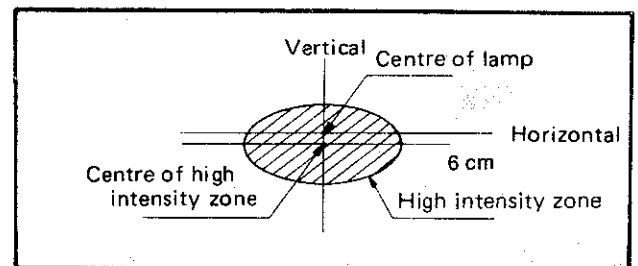

Fig. 3—Aiming pattern inner lamps high beam
(1) Place the car on a level floor 5 metres (16 feet 6 ins.) from a wall or aiming screen and directly in line with the centre of the aiming screen.
(2) Ensure that the fuel tank is full and any load is removed from the vehicle, i.e. kerb mass condition.
(3) Jounce the front and then the rear of the vehicle.
(4) Mask out the outer lamps, switch the lights on and select high beam.
(5) Make vertical and horizontal adjustments of the lamp to achieve the patterns shown in Fig. 3.